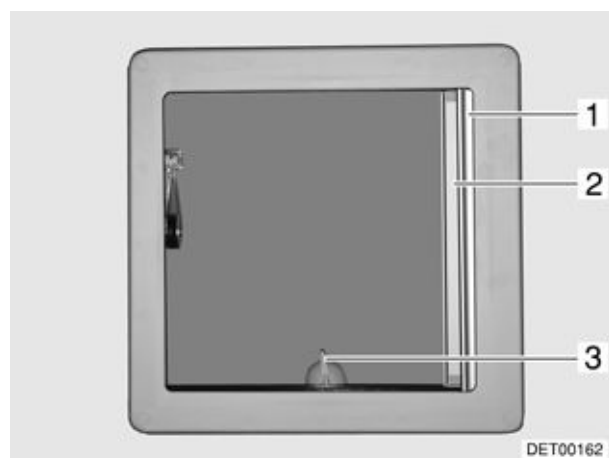

Fig. 52 Hinged skylight
- In order to open the skylight (Fig. 52,3), rotate the lever anticlockwise one quarter-turn and use lever to press the hinged skylight upwards.
- Turn lever (Fig. 52,3) a quarter-turn clockwise.
- Pull Roman shade (Fig. 52,1) in the direction indicated and release in the required position. The Roman shade will stay in that position.
- Pull insect screen (Fig. 52,2) in the direction indicated until it engages with the latch on the opposite side.